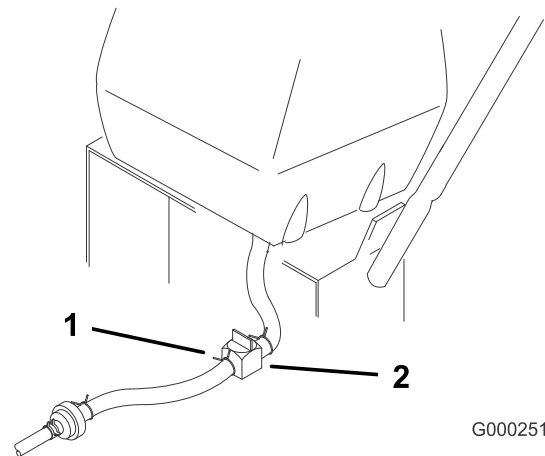

Figure 31
3. Close the fuel-shutoff valve at the fuel tank (Figure 31).
4. Squeeze the ends of the hose clamp together and slide it up the fuel line away from fuel filter (Figure 31).
5. Pull the fuel line off the fuel filter (Figure 31).
3. Close fuel shut-off valve at fuel tank (Figure 31).
7. Open fuel shut-off valve at fuel tank (Figure 31).